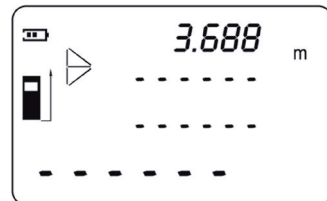

Fig. 21
5. Press the Read button to display the measured length of AB on the first line of the screen (fig. 21).